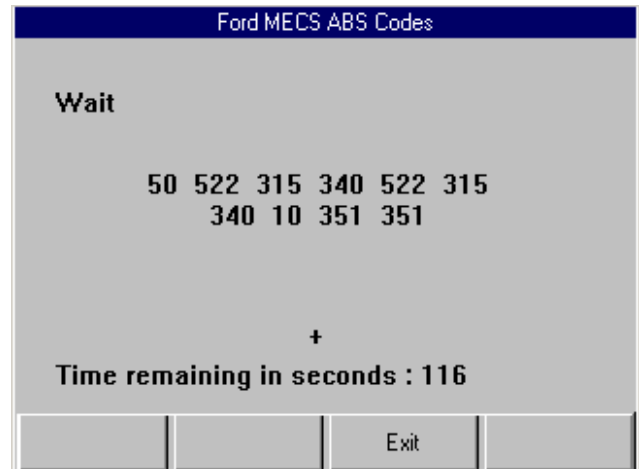

Figure 5.10: Read Codes Test Screen
- 3 One or more information or instruction screens appear. Read the screens and follow all instructions. If necessary, use the **function keys** to answer any questions. Do this until the test screen appears (see figure 5.10).